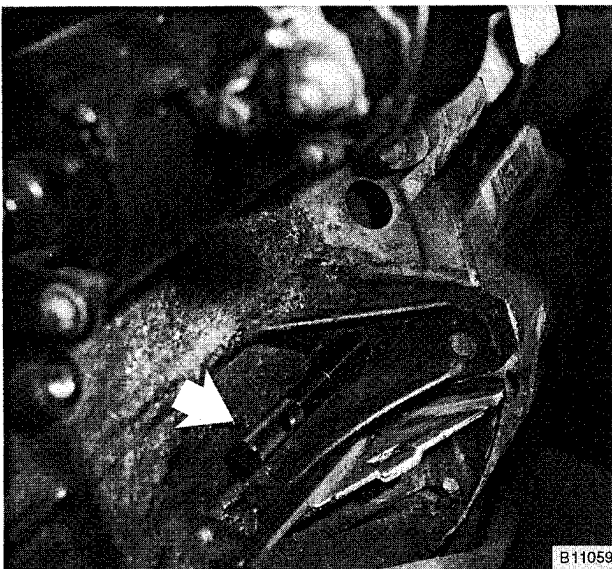
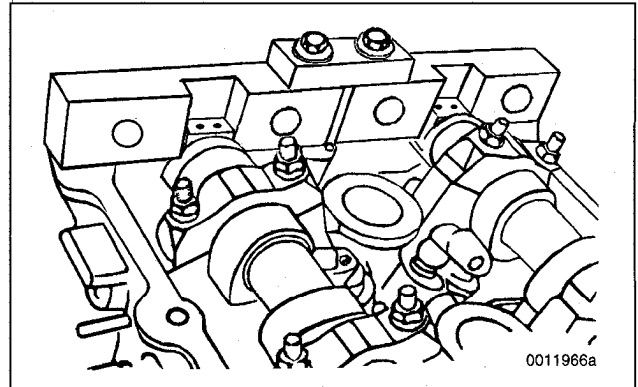

Fig. 5. BMW special tool no. 11 2 300 installed through bellhousing and into flywheel to lock crankshaft at TDC (arrow).
Fig. 6. BMW special tool no. 11 3 240 installed on rear of camshafts to position camshafts at TDC. (M44 camshafts shown. Other engines are similar).
The procedure outlined below assumes that the camshafts and the crankshaft are locked in the TDC installation position with special tools (shown earlier in Fig. 5 and Fig. 6).
11. Using loosened bolt at vibration damper, turn crankshaft to TDC and lock in position by inserting BMW special tool no. 11 2 300 through transmission bellhousing. See Fig. 5.
12. Lock camshafts at TDC by mounting BMW special tool no. 11 3 240 over square ends of camshafts. See Fig. 6.